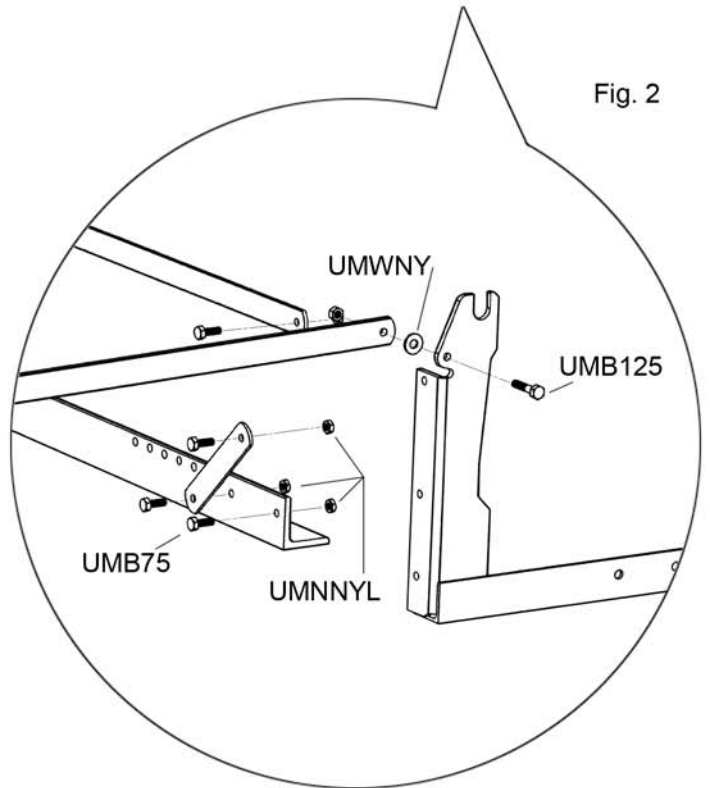

Fig. 2
1. Fasten right floor yoke (RFY) and left floor yoke (LFY) loosely to the bottom spring bar (-BSB) with two pairs of 3/4" bolts (UMB75) and nylon insert locknuts (UMNNYL). See figure 2.
2. Fasten angle braces (U-AB) and yoke connector bar (-YCB) to pieces from step 1 with 3/4" bolts (UMB75) and nylon insert locknuts (UMNNYL). See figure 2.